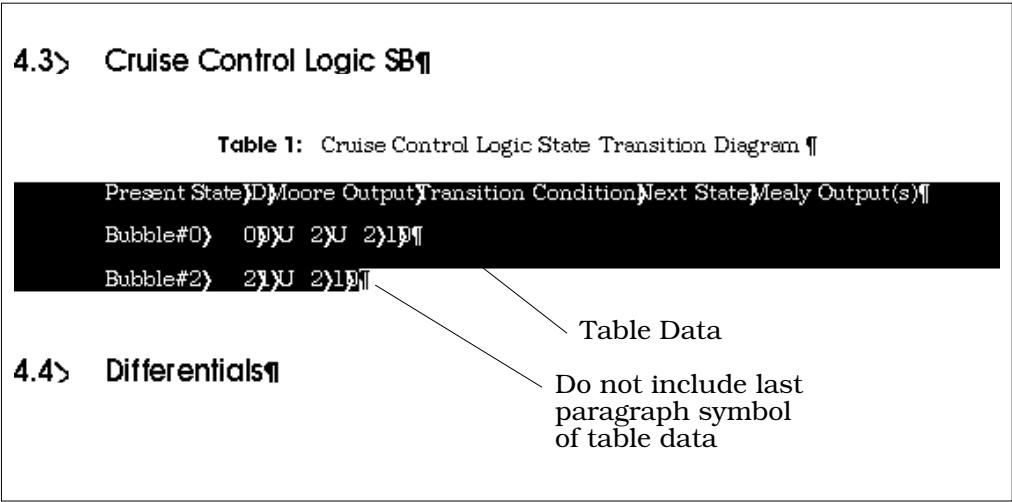

FIGURE E-2 Marking Data for Table Formatting
- 1. Select all the data you want to include in the table, but do *not* include the last paragraph symbol in the last row of table data (see Figure E-2 for an example of exactly what information you need to select for reformatting).